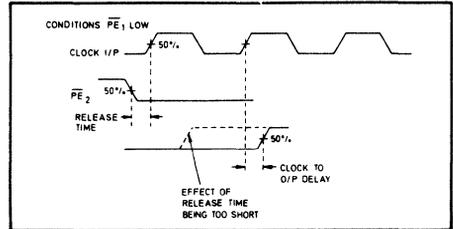

Fig. 4 Release timing diagram
- Release time is defined as the minimum time that can elapse between a H \rightarrow L transition of a control input and the next L \rightarrow H clock pulse transition to ensure that the $\bar{\tau}11$ mode is forced by that clock pulse (see Fig. 4).